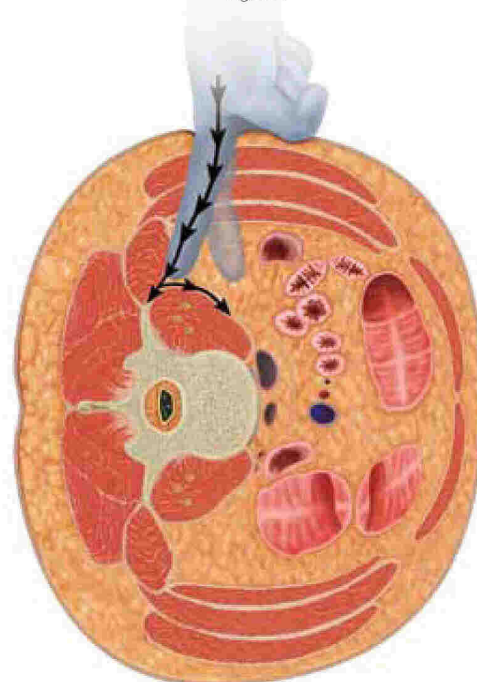

Figure 10
- Step 3** Once inside the retroperitoneal space, the index finger is used to follow the internal abdominal wall posteriorly down to the psoas muscle, which can be visualized. Use of the finger to sweep the peritoneal contents as well as the retroperitoneal fat anteriorly will allow a clear path down to the psoas muscle (**Figure 10**).